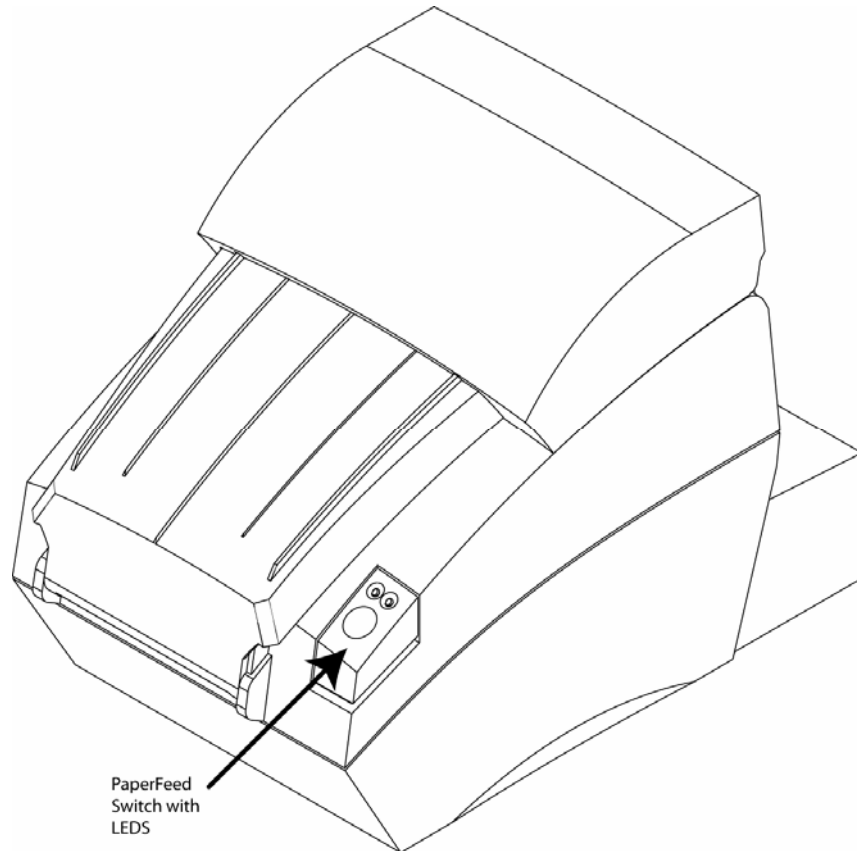

Figure 5: Paper Feed Button
6. Advance the paper by pressing on the paper feed button (figure 5) and remove excess paper.
To print the test ticket, power-on the printer while pressing and holding the Paper Feed Button (figure 5) for approximately 3 seconds. A test ticket similar to the one below will be printed approximately 5 seconds later. Press the paper feed button once more and the ticket will feed. Pressing the button again will result in blank tickets.